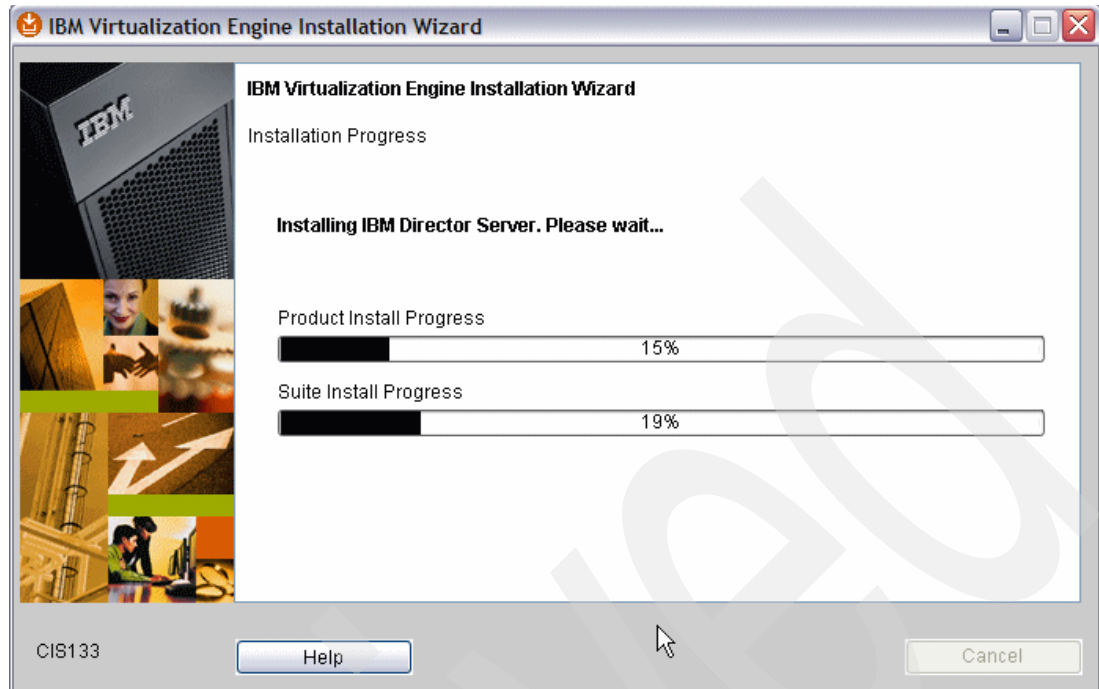

Figure 5-24 Installation progress window IBM Director Server
19. An Installation Progress window (Figure 5-24) opens to indicate the installation progress for IBM Director Server.